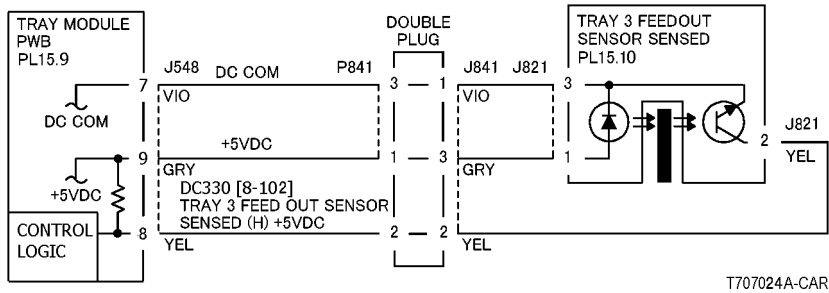
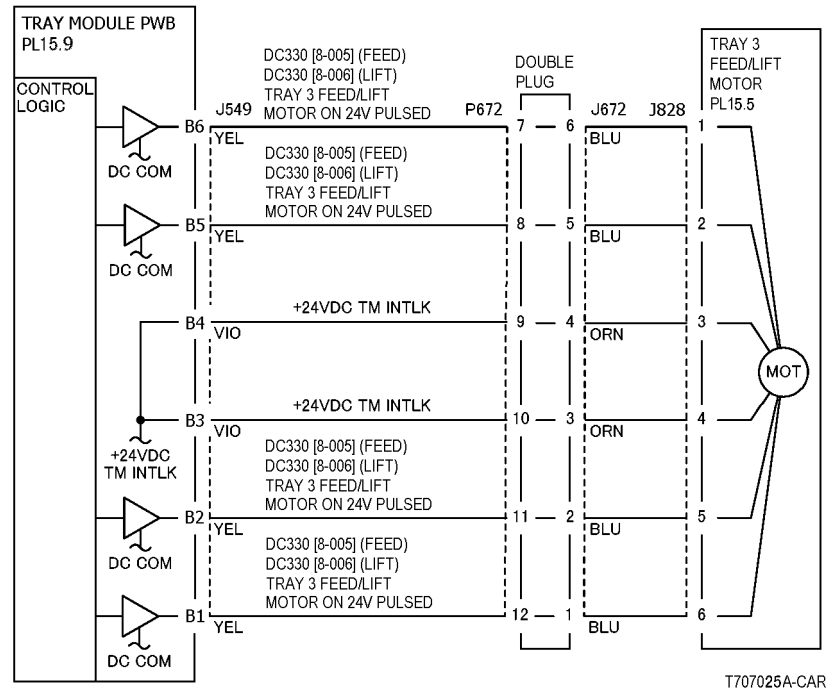
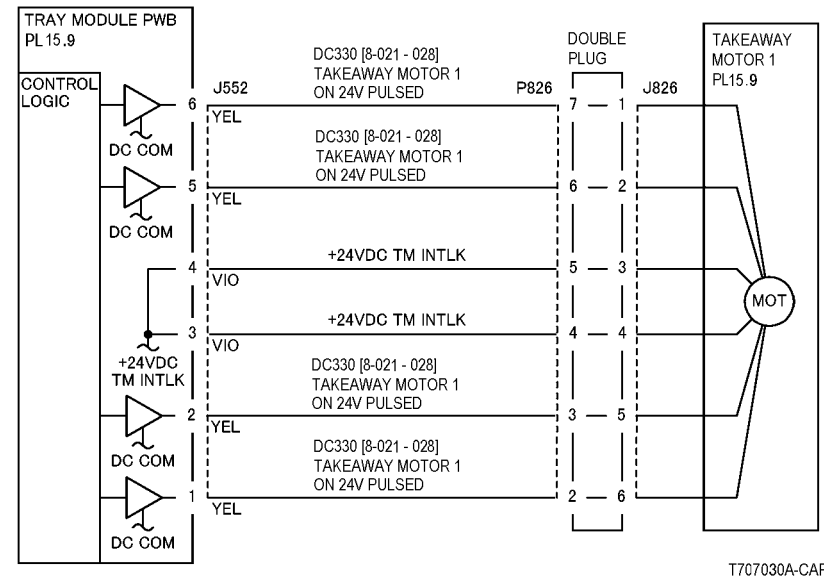

Figure 1 7-117 RAP Circuit Diagram - Tray 3 Feed Out Sensor
Figure 2 7-117 RAP Circuit Diagram - Tray 3 Feed/Lift Motor
Figure 3 7-117 RAP Circuit Diagram - Takeaway Motor 1
- Ensure that the connectors shown in the circuit diagrams (Figure 1, Figure 2, Figure 3) are securely connected and that the wires are not damaged.